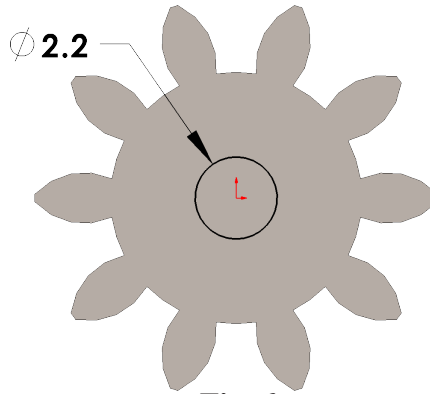

Fig. 6
Step 3. Change Bore **diameter to 2.2**, **Fig. 6**. **Clearance .2** of Motor Shaft.